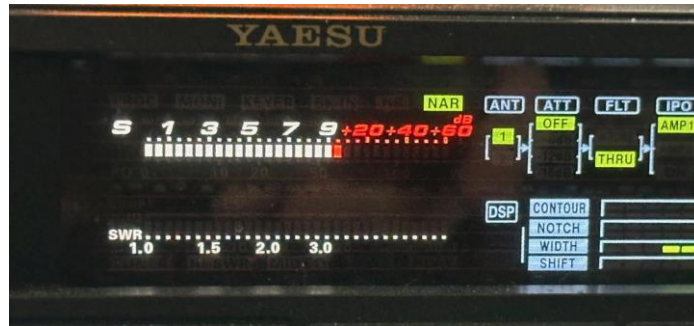

Figure 11 – Receiver S-meter at about .85 IQ gain
- If using a Spectrum Analyzer (SA), setup is as follows
- Change back to IQ Gain and observe the S-meter reading, shown in Figure 11. The